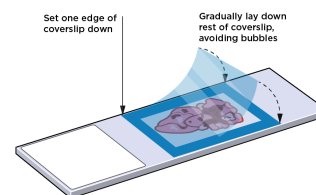

Figure 23: Apply Incubation Frame Cover
Start by adding the hybridization solution to the edge of the tissue opposite of the slide label within the frame. Applying the incubation frame cover will help move the hybridization solution across the tissue (Figure 23).
- Carefully apply incubation frame cover (Figure 23). Start by setting one edge of the cover down on the incubation frame edge, then gradually lay down the rest of the cover. The tab on the incubation frame cover should face the slide label. As it's lowered, the frame cover should naturally adhere to the incubation frame; no additional pressure around the frame is needed. **Do not press the center of the cover as it could damage the tissue.**